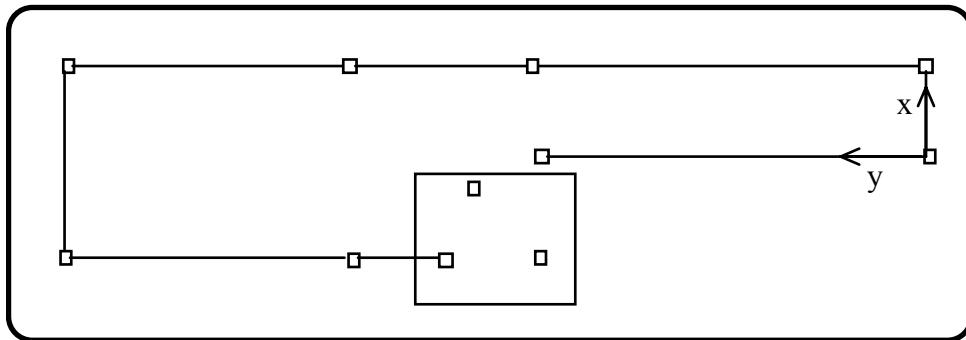
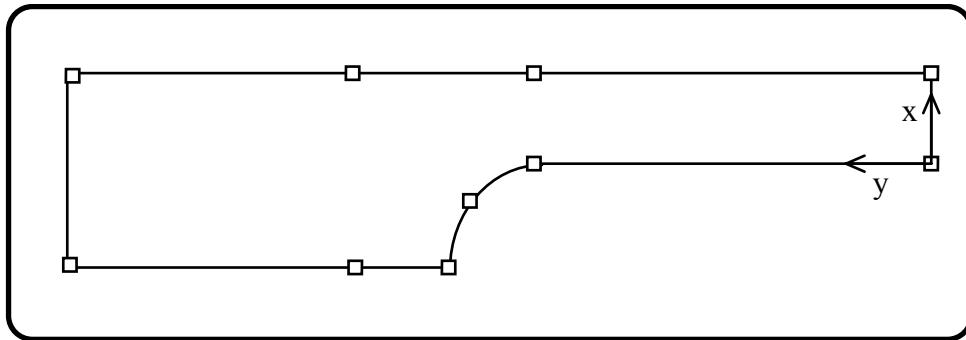

Figure 2.6. Collected key points for creating an arc.
Figure 2.7. Key points and edges in the x-y plane. The arc center point has been cut.
Step 5: Add arc segments by collecting two end points and a center point. It is easiest to drag a box so that it encompasses the three points (Figure 2.6). Select the **Create A Circular Arc** menu button. An arc is created and displayed (in red). Create the other segment in the same way. These are all the edges that we will add for now (Figure 2.7); other edges will be added later. You can remove the arc center point by collecting it and selecting **Cut**; it is not shown in any of the figures after Figure 2.6.